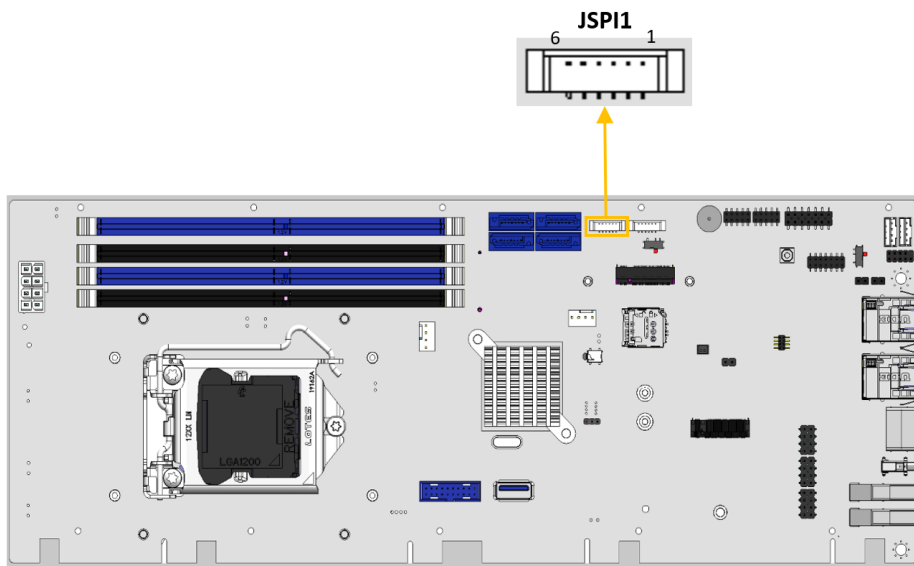

Figure 3-22: Flash SPI ROM Connector Location
- CN Location:** See Figure 3-22